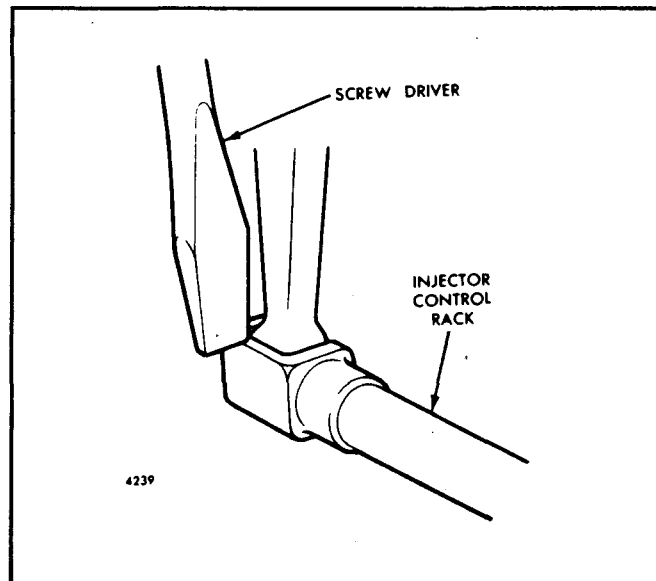

Fig. 3 - Checking Injector Rack "Spring"
7. To be sure the rack control lever is properly adjusted, press down on the injector rack with a screw driver or finger tip (Fig. 3). A light pressure should cause the rack to rotate. The rack is sufficiently tight if the rack returns or springs back to its original position when the pressure is removed. The rack is too tight if a heavy pressure is required to rotate the rack.